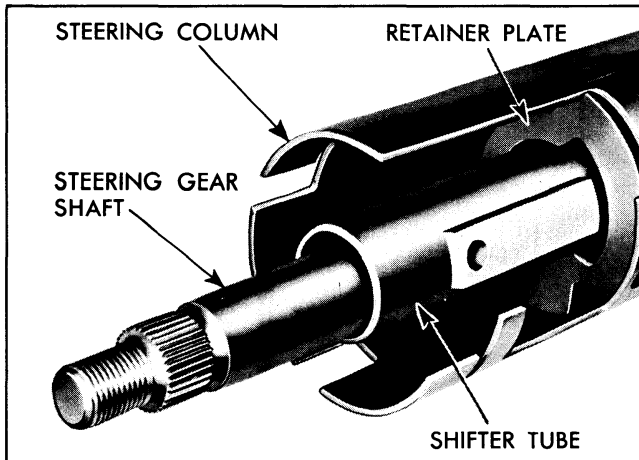

Fig. 9-20 Location of Retainer Plate
19. Remove rear retainer plate from shifter tube (Fig. 9-20).